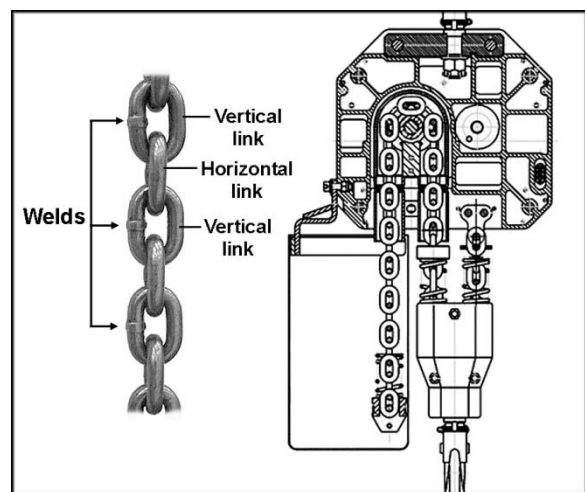

Figure 13
6. Check that chain is not twisted at bottom hook. All welds should face same direction (see Figure 13). For hoists with two or more falls of chain, make sure bottom hook is not capsized. This may cause the chain to twist.
4. Using a C-link, connect the new chain to the old chain. Be sure vertical link welds face away from load sheave (see Figure 13 and its accompanying text).
Vertical and horizontal are determined by the relationship to the load chain sheave. Vertical links will be guided by the center slit in the sheave. Horizontal links will engage the oval pockets on the sheave. See Figure 13.